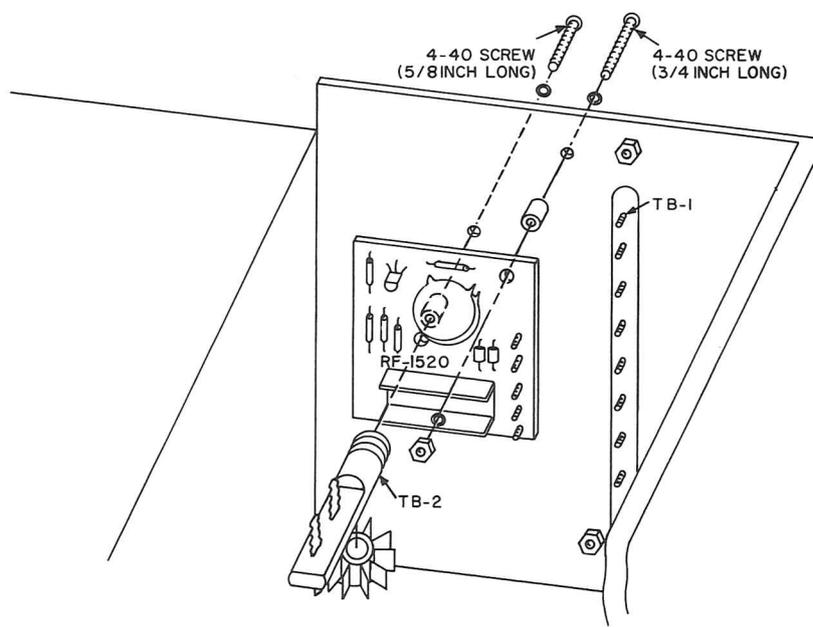

Figure 1. RF-520 Muting Conversion Module Installation
3. Secure RF-520 on chassis with hardware supplied as shown in figure 1.